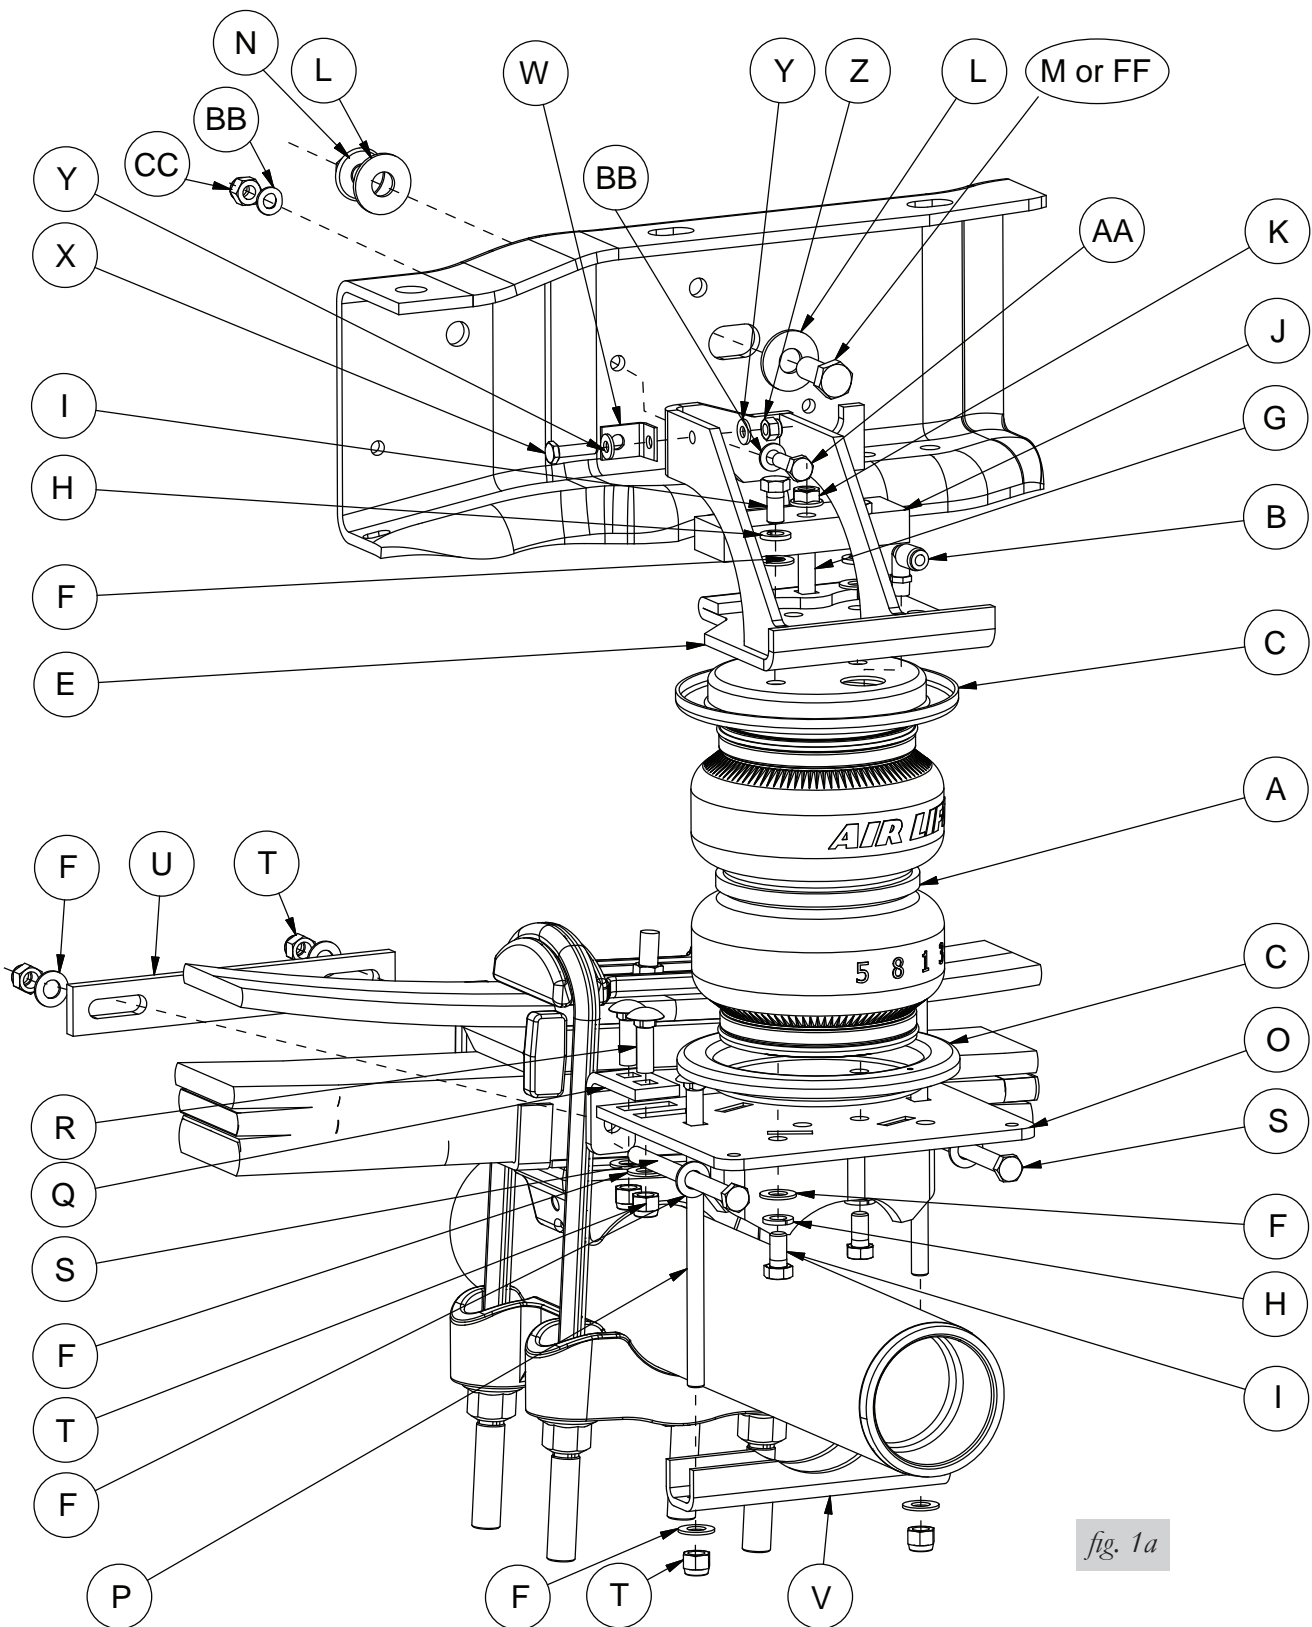

fig. 1a
1. Set a roll plate (C) over the top and bottom of the bellows (A) (fig. 1a or 1b).
The radiused (rounded) edge of the roll plate (C) will be towards the bellows so that the bellows is seated inside both roll plates (fig. 1a or 1b).
2. Install the swivel elbow fitting (B) into the top of the bellows finger tight. Tighten the swivel fitting one and a half turns.